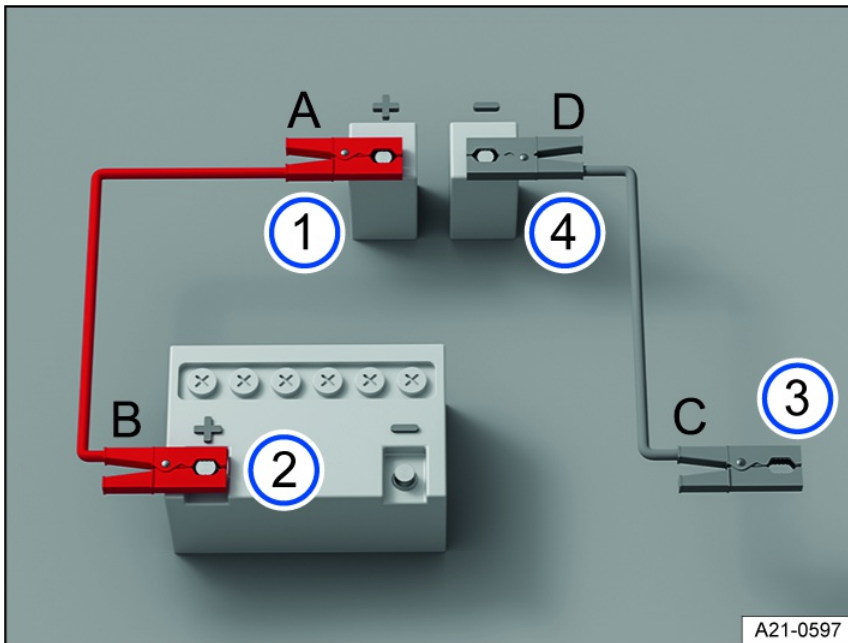

Fig. 154 Diagram for connecting the jumper cables.
Only connect the jumper cables in the sequence A – B – C – D *fig. 154*.
3. Connect one end of the red jumper cable to the positive jump-start point (+) of the vehicle with the discharged 12 V vehicle battery *fig. 154* ① ⇒ ⚠.
4. Connect the other end of the red jumper cable to the positive battery terminal (+) on the vehicle providing current *fig. 154* ②.
5. Connect one end of the black jumper cable preferably to the negative terminal (-) jump-start point on the vehicle with the 12 V vehicle battery providing current *fig. 154* .
- Or:** If there is no negative terminal (-) jump-start point, connect the end of the black jumper cable to a large metal part that is bolted securely to the engine block, or the engine block itself, on the vehicle with the 12 V vehicle battery providing current *fig. 154* .
6. Connect the other end of the black jumper cable to the negative terminal (-) jump-start point on the vehicle with the discharged 12 V vehicle battery *fig. 154* .
3. Once the vehicle has been jump-started, always disconnect the jumper cables in the order D – C – B – A *fig. 154*.